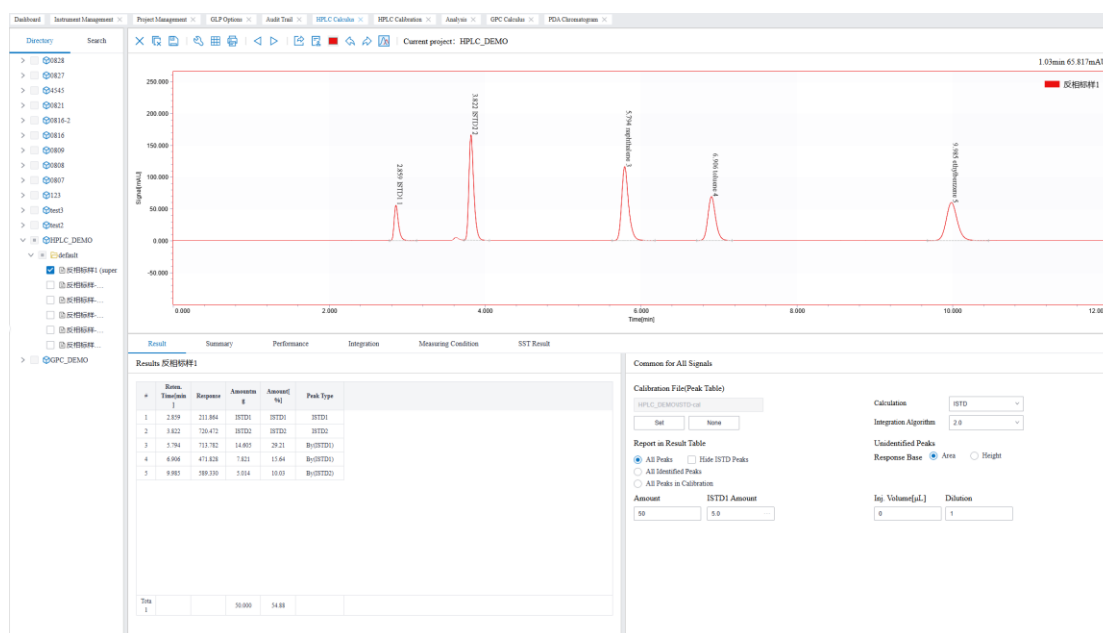

Figure 7-7 Internal standard method - Calibration file
(6) After the calibration point is set, set the items "for ISTD" and "Use ISTD" in the calibration summary table, set the peak of the internal standard to "for ISTD", and the summit of the measured substance will automatically set "Use ISTD"; Check the calibration curve in the TAB of the corresponding compound and set the calibration method of the calibration curve, as shown in Figure 7-7.